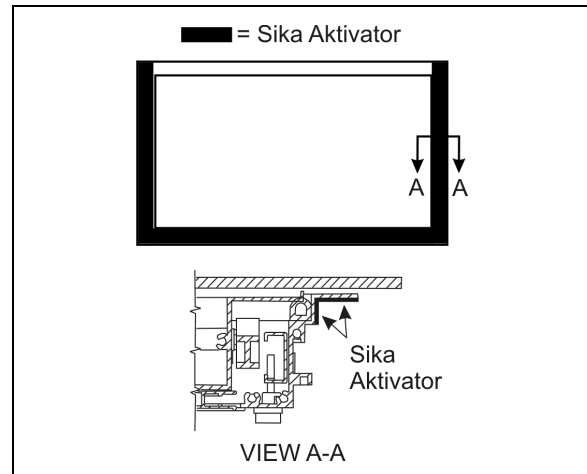

FIGURE 65 : AWNING WINDOW – SIKA AKTIVATOR
6. Apply Sika Aktivator as per FIGURE 65.